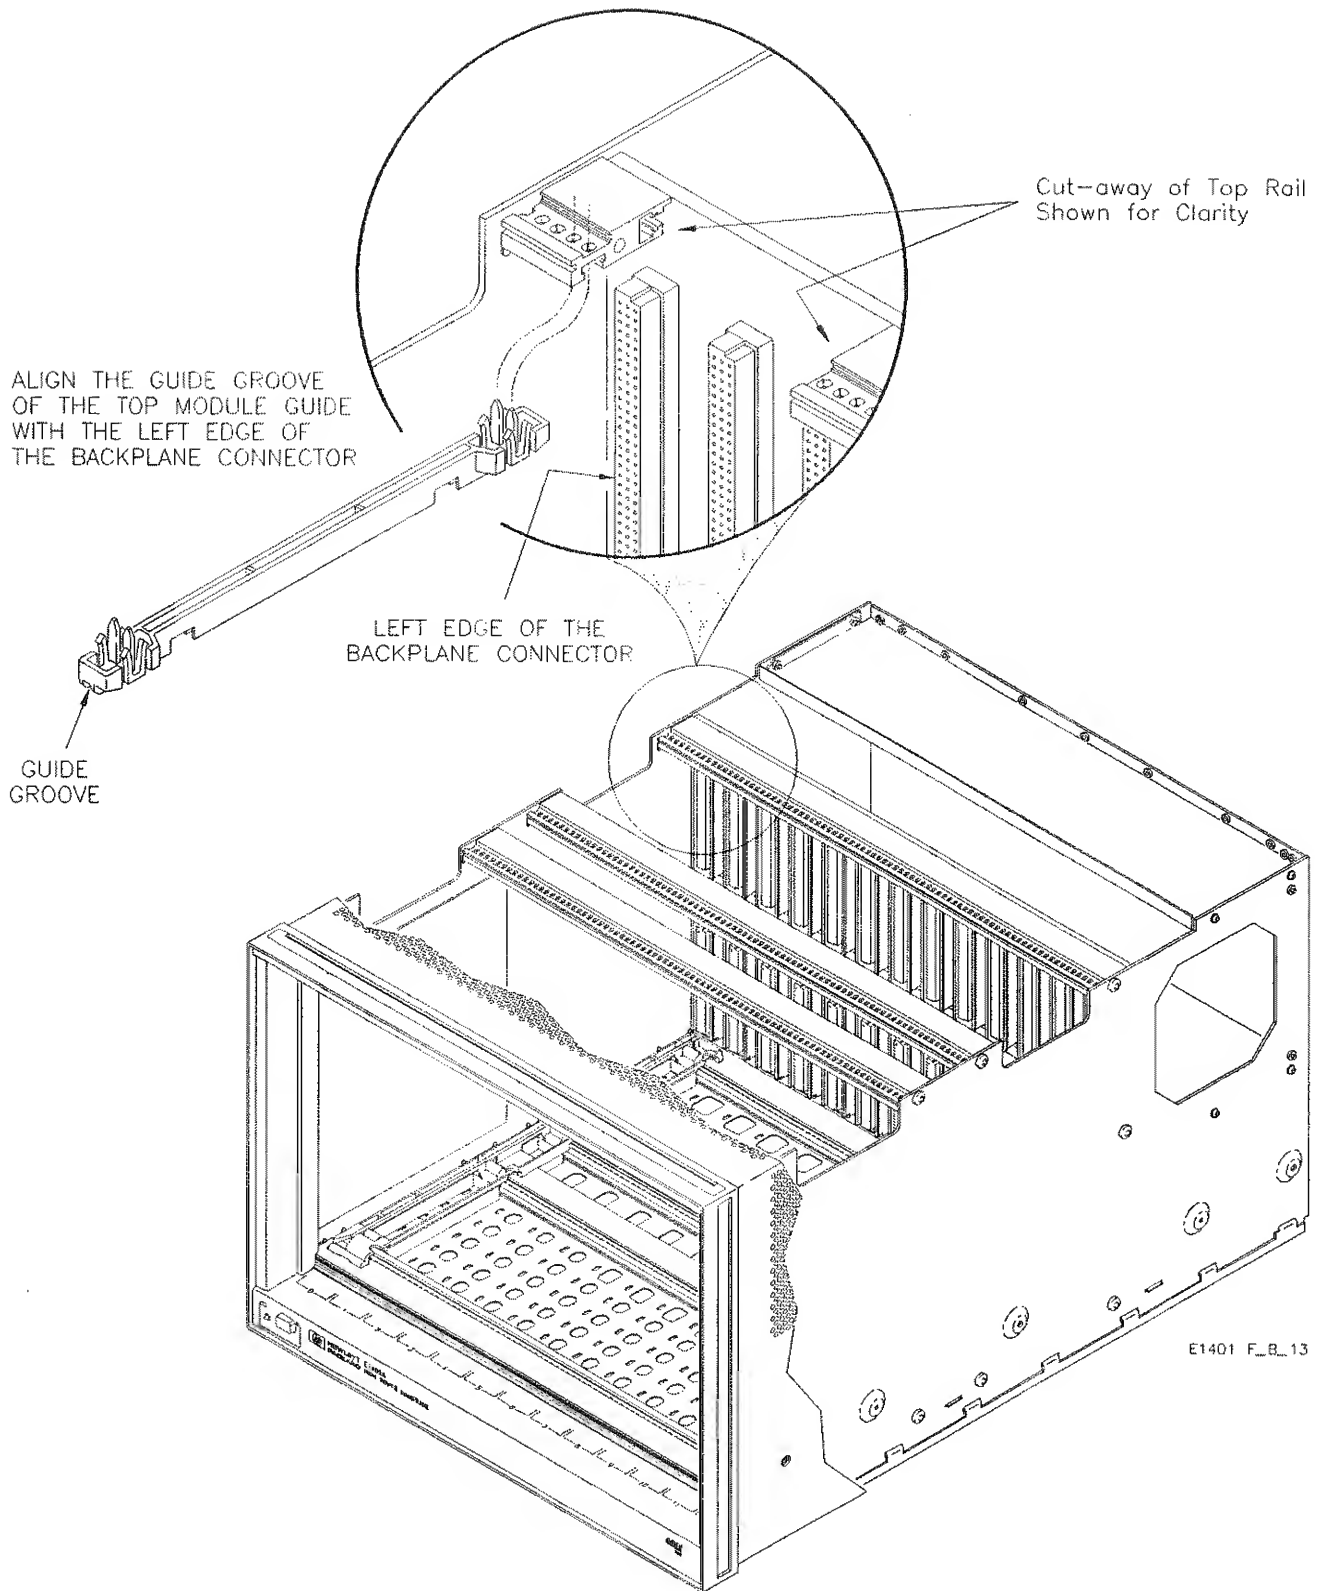

Figure B-13. Replacing an Upper Module Guide
1. Orient the new guide as shown in figure B-13.
2. If possible, align the guide with the guide remaining in the same slot, either in front of or behind the guide you are going to install. If you cannot align the new guide with an existing guide, align the guide groove with the left edge of the backplane connector for the slot as shown in figure B-13.